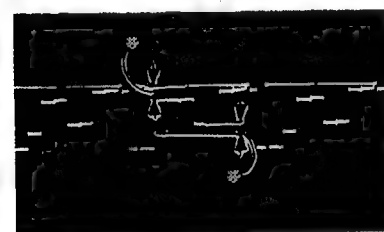

Fig. 23-1
3. Adjust RV3 of BD board so that the levels with * is flat as shown in Fig. 23-1.